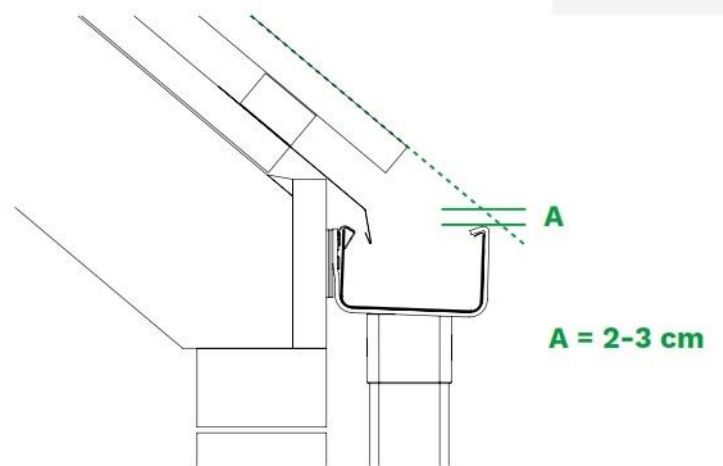

Figure 1
- 1.11. Setting the gutters in line with the roof plane - the edge of the roof should be 2-3 cm above the outer gutter drip (Fig. 1).